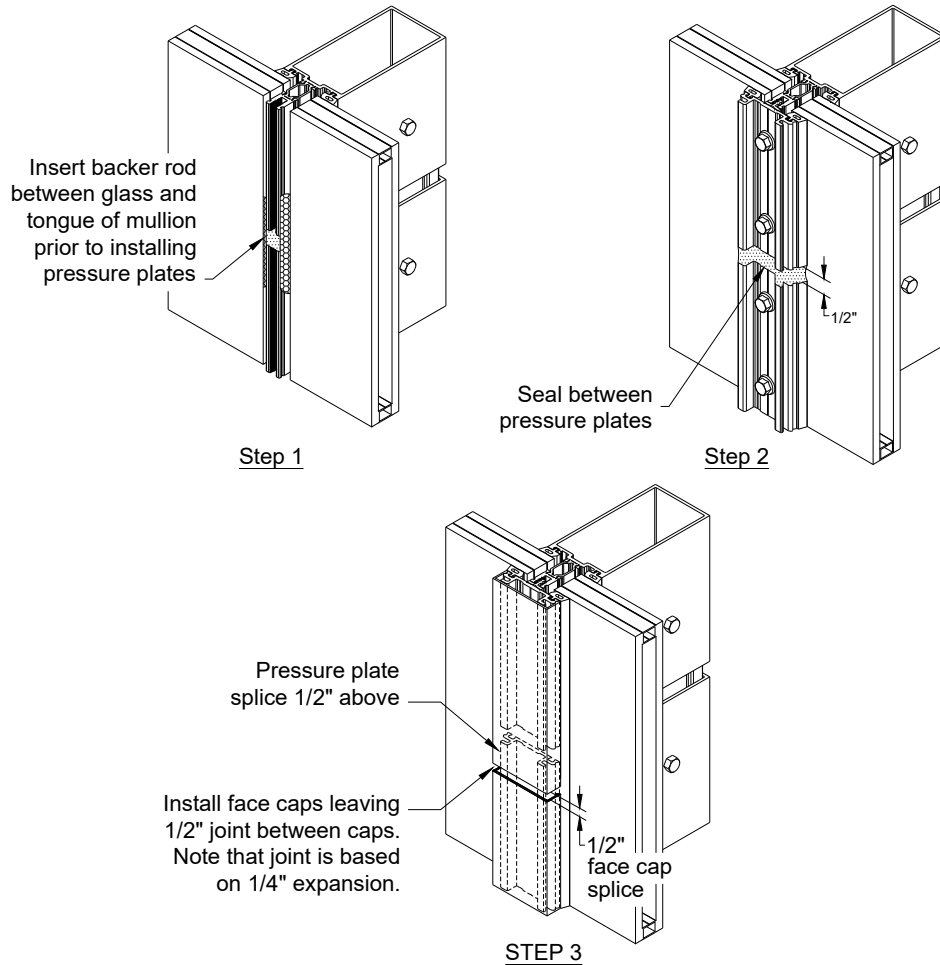

Figure 65: Typical Splice Sealing at Glazing
- 23.4 At typical vertical splice, insert backer rod between glass and mullion tongue, see Figure 65.